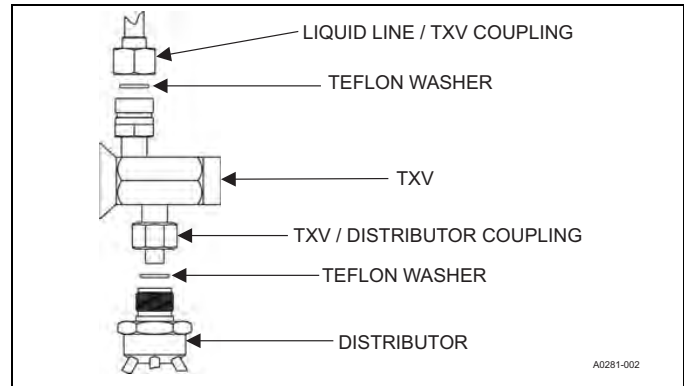

FIGURE 1: TXV Installation
4. Ensure Teflon washer is seated in distributor. Install the thermal expansion valve to the distributor assembly with supplied fittings. Hand tighten and turn an additional 1/4 turn to seal. Do not over-tighten fittings. See Figure 1.